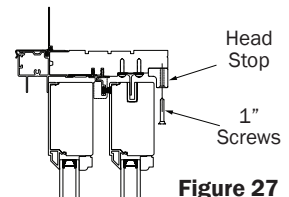

Figure 27
31. With the operable panels in place, reattach the head stop by replacing the 1" Flat Head screws that you removed in step 25 (Fig. 27).
32. To adjust the panels, the rollers can be accessed using the holes on the face of the bottom rails. Each roller can be adjusted separately using a phillips head screwdriver. Turning clockwise raises the panel and counter clockwise lowers the panel. Adjust until panel glides smoothly on the track and panel is plumb and level with the head. Top of panel should be approximately 1/4" from the head (Fig. 27).